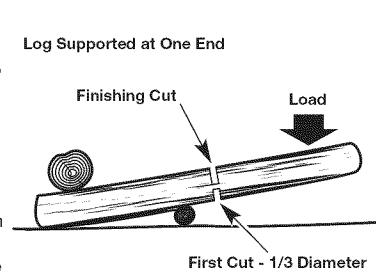

Fig. 23
1. When the log is supported on one end (Fig. 23): First, cut from the bottom (underbuck) 1/3 of the way through the log to avoid splintering. Second, cut from above (overbuck) to meet the first cut and avoid pinching.